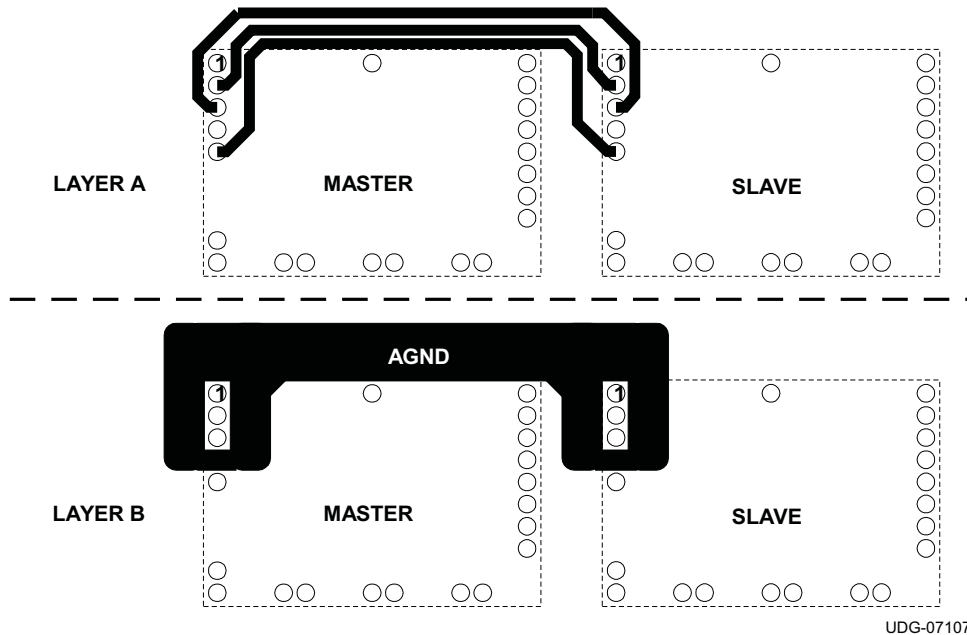

Figure 22. Recommended Layout of Inter-Connection Pins Between Two Current Sharing Modules
The PTH08T255W module is capable of being configured in parallel with another PTH08T255W module to share load current. To parallel the two modules, it is necessary to configure one module as the Master and one module as the Slave. To configure a module as the Master, connect the CONFIG pin (pin 1) to GND. The CONFIG pin of the Slave must be connected to V_I . In order to share current, pins 2 thru 5 of both the Master and Slave must be connected between the two modules. See Figure 22 for the recommended layout of pins 2 thru 5. The module that is configured as the MASTER is used to control all of the functions of the two modules including Inhibit ON/OFF control, AutoTrack sequencing, TurboTrans, SmartSync, +/- Remote Sense, and Output Voltage Adjust. See the current sharing diagram in Figure 19 for connections. The MASTER and the SLAVE must be powered from the same input voltage supply.
(1) For more details on the pin descriptions, please refer to the 'Terminal Functions' described in Table 1
(2) See Layer A in Figure 22 for recommended layout
(3) See Layer B in Figure 22 for recommended layout
In current sharing applications the V_I pins of both modules must be connected to the same input bus. The V_O pins of both modules are connected together to power the load. The GND pins of both modules are connected via the GND plane. Figure 22 shows the required layout of the inter-connection pins for two modules configured to share current. Notice that the Share (pin 2) connection is routed between the Comp (pin 3) and CLKIO (pin 5) connections. AGND (pin 4) should be connected as a thicker trace on an adjacent layer, running parallel to pins 2, 3 and 5. AGND must not be connected to the GND plane.